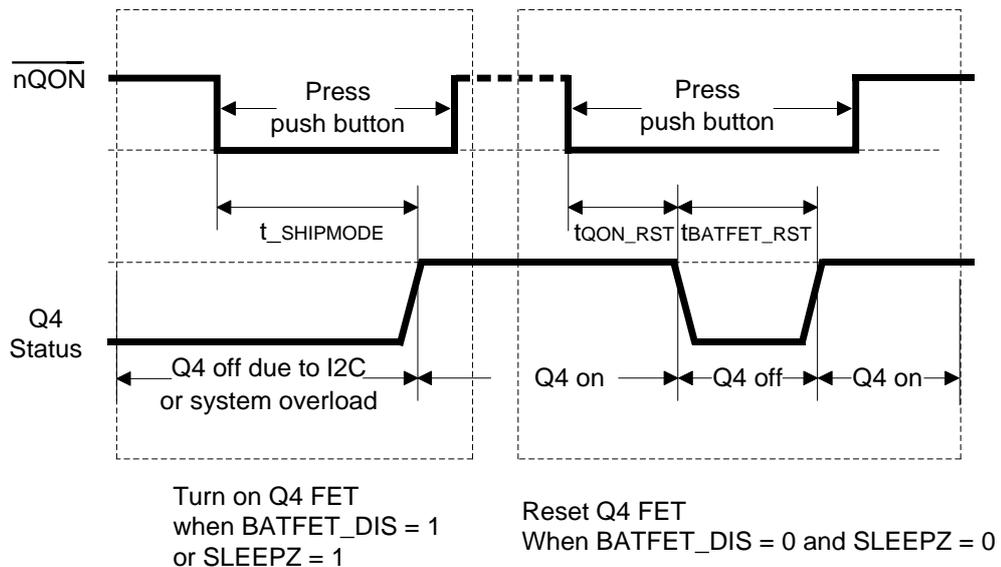
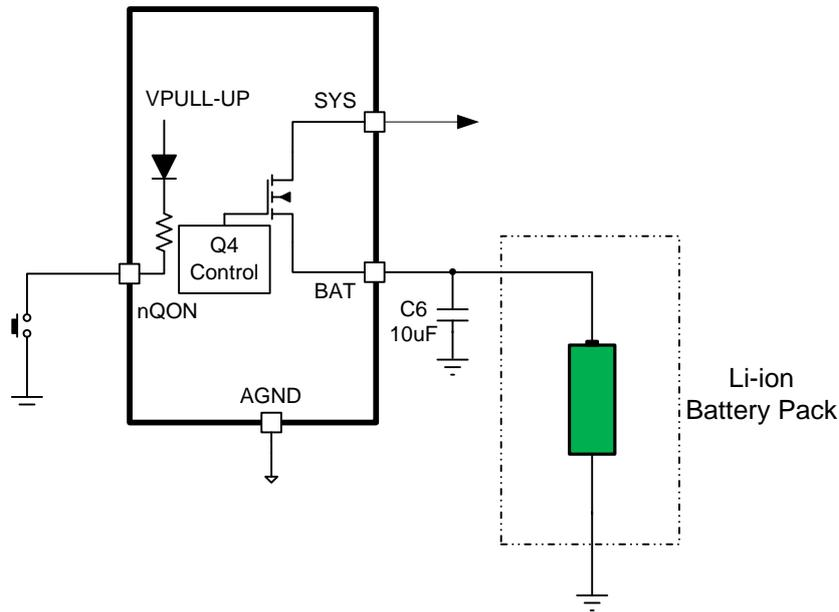

Figure 10.nQON Timing to Exit Ship Mode (Enable BATFET)
Figure 11. nQON Push Button Circuit
1. Enable BATFET: Applying an nQON logic high to low transition with longer than $t_{SHIPMODE}$ deglitch time (negative pulse) turns on BATFET to exit ship mode (Figure 10 left).
2. Reset BATFET: By applying a logic low for a duration of at least t_{QON_RST} to nQON pin while VBUS is not powered and BATFET is allowed to turn on (BATFET_DIS bit = 0), the BATFET turns off for t_{BATFET_RST} and then it is re-enabled resulting in a system power-on-reset. This function can be disabled by clearing BATFET_RST_EN bit (Figure 10 right). A typical push bottom circuit for nQON is given in Figure 11.